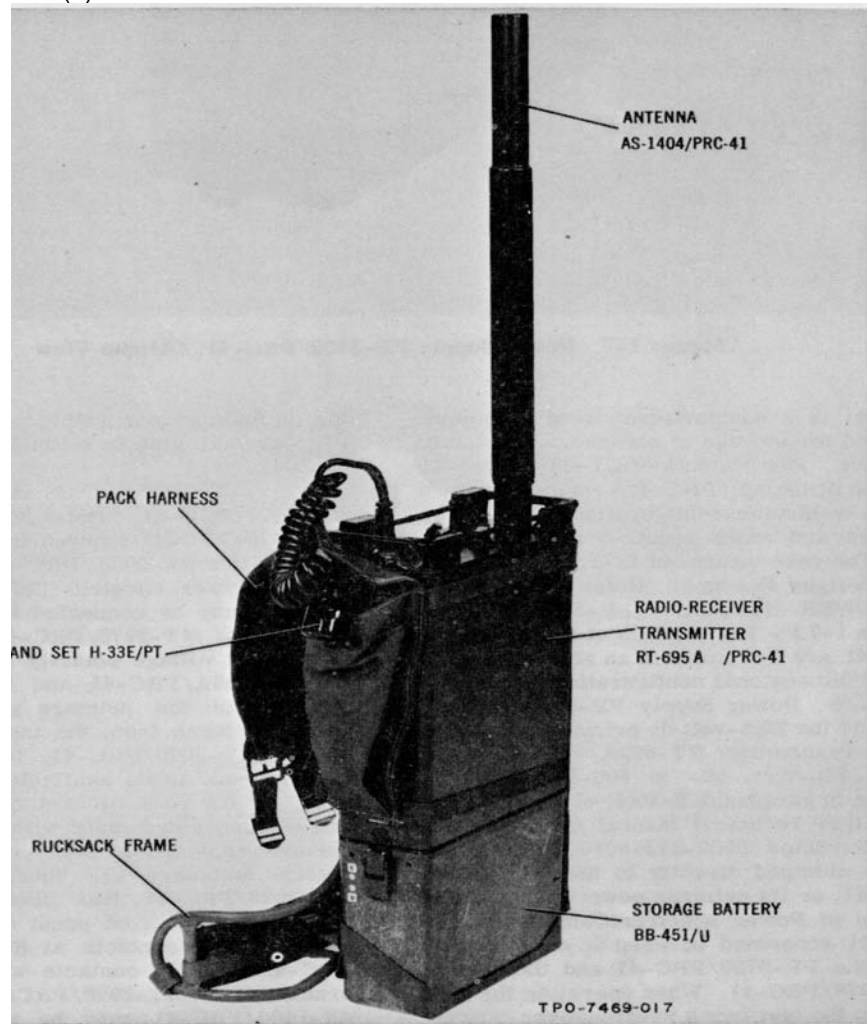

Figure 1-6. Radio Set AN/PRC-41A, Man-Pack Operation Configuration
(5) ANTENNA AS-1404/PRC-41. (Refer to figure 1-6.) - Antenna AS-1404/PRC-41 is an omnidirectional antenna for use with RT-695A/ PRC-41. The AS-1404/PRC-41 is used for transmission and reception of signals in the 225- to 399.9-MHz range without electrical or physical adjustments. It may be mounted directly on antenna connector J28 on the front panel of RT-695A/PRC-41 or the connector on the antenna mounting bracket on Mounting MT-2976/ PRC-41 or, when mounted on Mast AB-777/PRC-41, it must be connected through Adapter UG-29B/U and Radio Frequency Cable Assembly CG-55G/U to the RT-695A/PRC -41.
(6) HANDSET H-33E/PT. (Refer to figure1-6.) - Handset H-33E/PT consists of a handpiece a length of cable, and a connector that mates with the H33E/PT connector J13 on the front panel of RT-695A/PRC-41. The H-33E/PT contains a carbon microphone, an electromagnetic earphone, and a press-to-talk button. In operation, pressing the press-to-talk button places the RT-695A/PRC-41 equipment in transmit operation; releasing the button returns the equipment to receive operation.
(7) RUCKSACK FRAME. (Refer to figure1-6.) - The rucksack frame is government furnished equipment. The rucksack frame and associated straps and harness provide a back-pack frame for carrying Radio Receiver-Transmitter RT-695A/PRC-41, Storage Battery BB-451/U, Handset H-33E/PT, and Antenna AS-1404/PRC-41 in man-pack operation.